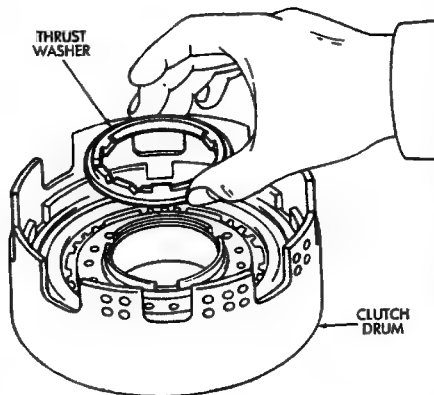

Fig. 3 Removing Clutch Drum Thrust Washer
- (2) Remove clutch drum thrust washer (Fig. 3).